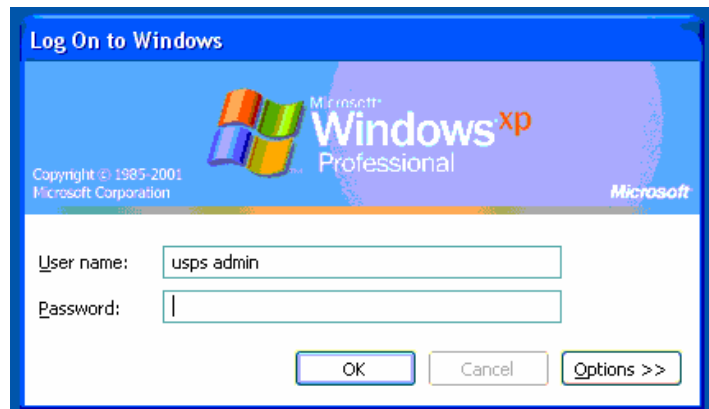

Figure 1-113. Log on to Windows
11. The computer displays the "Log On to Windows" popup (Figure 1-113).